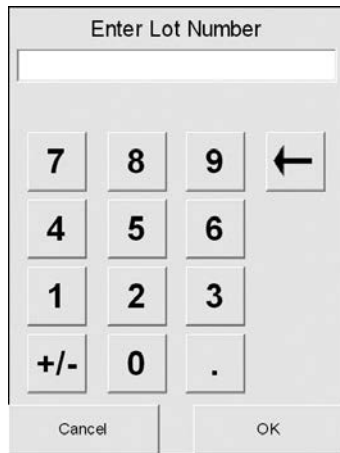

Fig. 2-17 Enter Lot Number
- Enter the lot number of the Calibrator cassette located on the top surface of the cassette and press **OK** (Fig. 2-17).